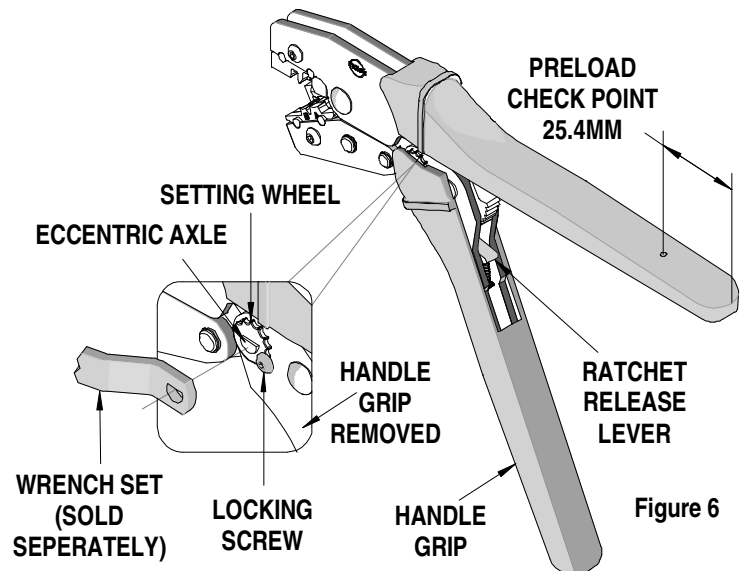

Figure 6
3. Make certain all pins; pivot points and bearing surfaces are protected with a thin coat of high quality machine oil. Do not oil excessively. The tool was engineered for durability but like any fine piece of equipment it needs cleaning and lubrication for a maximum service life of trouble free crimping. Use light oil, such as 30 weight automotive oil, at the oil points. Every 5,000 crimps, or 3 months, to significantly enhance the tool life. See Figure 6.
Should this tool ever become stuck or jammed in a partially closed position, **Do Not force the handles open or closed**. The tool will open easily by pressing the ratchet release lever. See Figure 6.
How to Adjust Tool Preload (See Figure 6)